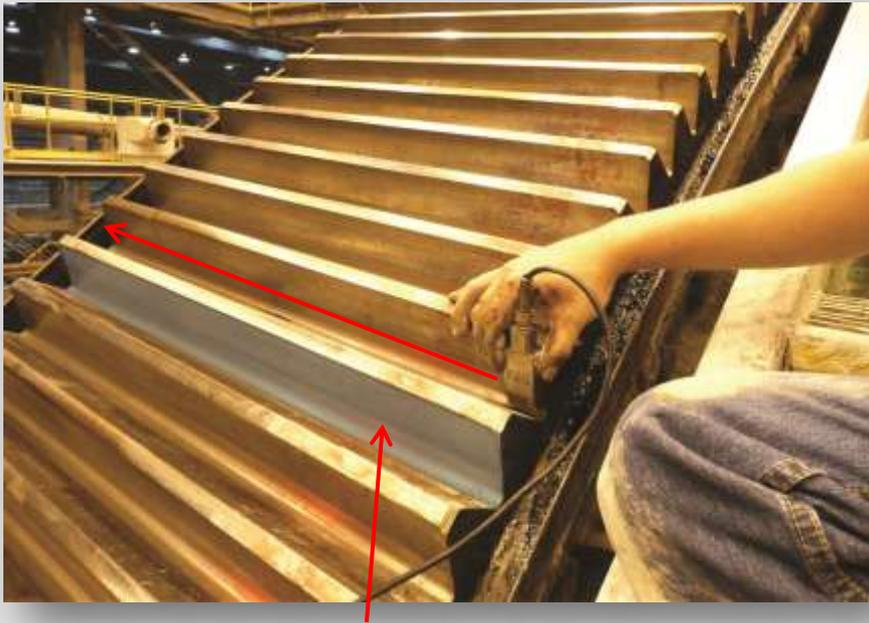

FIGURE 4: Coverage of the ECA Scan
- The addendum, dedendum and root are scanned in one pass (Fig. 4,5).